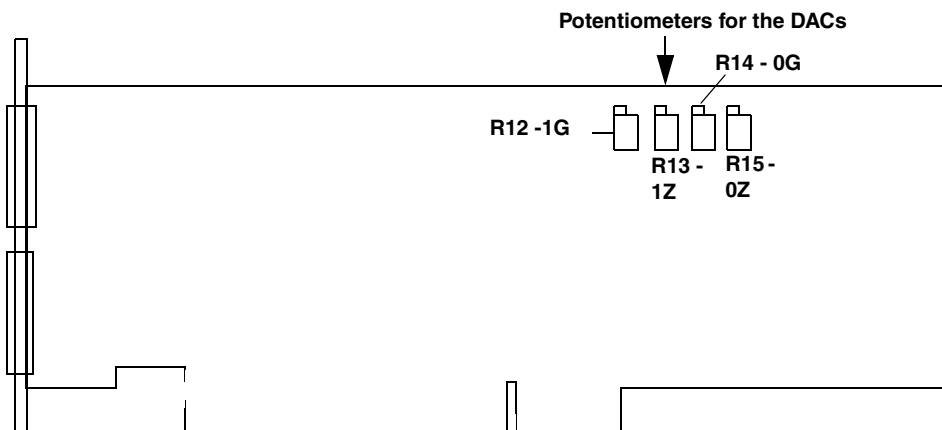

Figure 78: Location of Potentiometers R12 to R15 on the DT3010, DT3010-268, DT3010/32, and DT3010/32-268
8. Physically adjust potentiometer R15 (labelled 0Z) on the DT3010, DT3010-268, DT3010/32, or DT3010/32-268 board until the display reads -9.3750 V (within 0.001 V). Figure 78 shows the location of this potentiometer.
10. Physically adjust potentiometer R14 (labelled 0G) on the DT3010, DT3010-268, DT3010/32, or DT3010/32-268 board until the display reads +9.3750 V (within 0.001 V). Figure 78 shows the location of this potentiometer.
13. Physically adjust potentiometer R13 (labelled 1Z) on the DT3010, DT3010-268, DT3010/32, or DT3010/32-268 board until the display reads -9.3750 V (within 0.001 V). Figure 78 shows the location of this potentiometer.
display reads +9.3750 V (within 0.001 V). Figure 78 shows the location of this potentiometer.